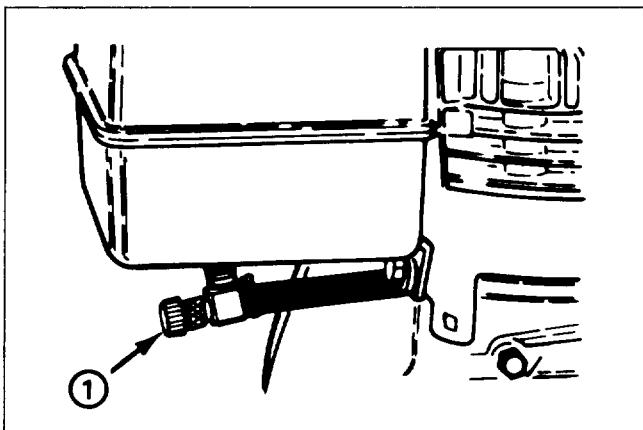

Figure 14
**Fuel Shut-Off Valve** (Fig. 14)—Valve is located under fuel tank. Close valve to stop fuel flow from fuel tank and open valve to allow fuel to flow to the carburetor. Close valve when snowblower is not used.